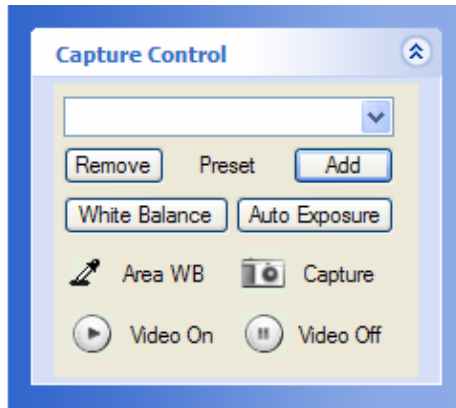
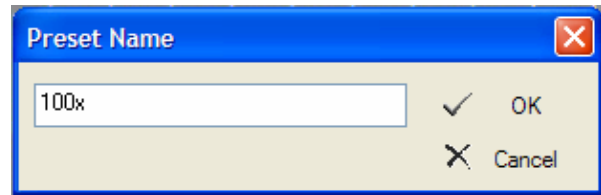

Figure 3: Capture Control Box
Figure 4: Preset Name Dialog Box
Step 4: Select *Add* in the *Capture Control* box to save your calibration as shown in Figure 3. This will produce the preset name dialog box as shown in Figure 4.